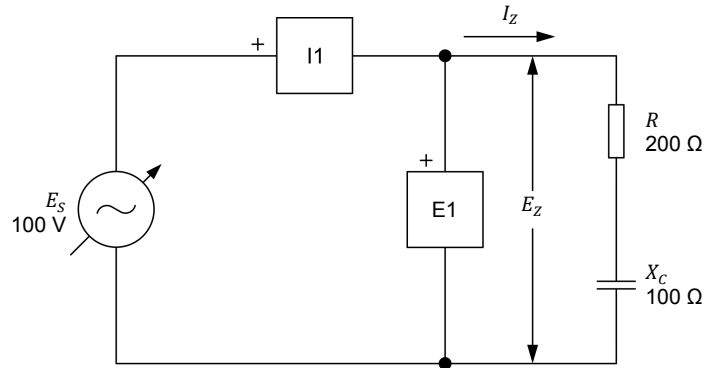

Figure 2-19. Series ac circuit containing a resistor and a capacitor.
33. Set up the circuit shown in Figure 2-19.